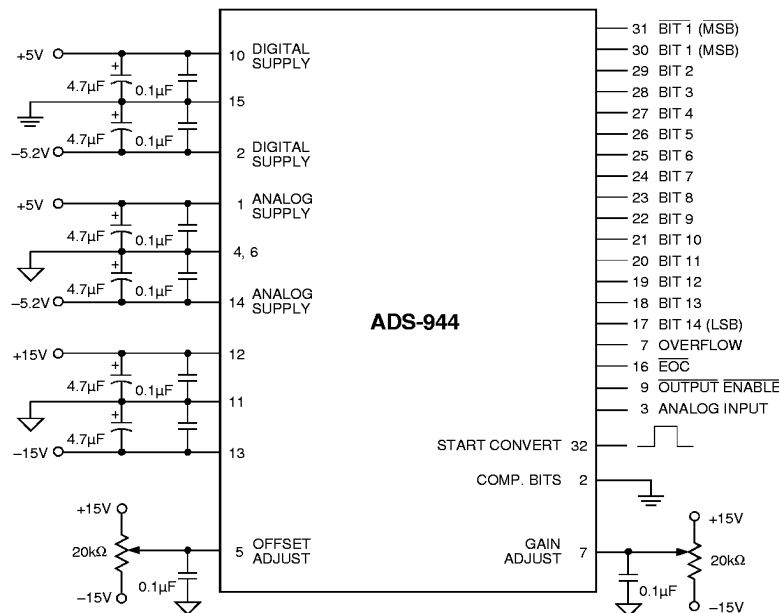

Figure 2. ADS-944 Connection Diagram
- The ADS-944 achieves its specified accuracies without the need for external calibration. If required, the device's small initial offset and gain errors can be reduced to zero using the adjustment circuitry shown in Figure 2. When using this
(Refer to Figure 2 and Table 1)
Any offset and/or gain calibration procedures should not be implemented until devices are fully warmed up. To avoid interaction, offset must be adjusted before gain. The ranges of adjustment for the circuit in Figure 2 are guaranteed to compensate for the ADS-944's initial accuracy errors and may not be able to compensate for additional system errors.